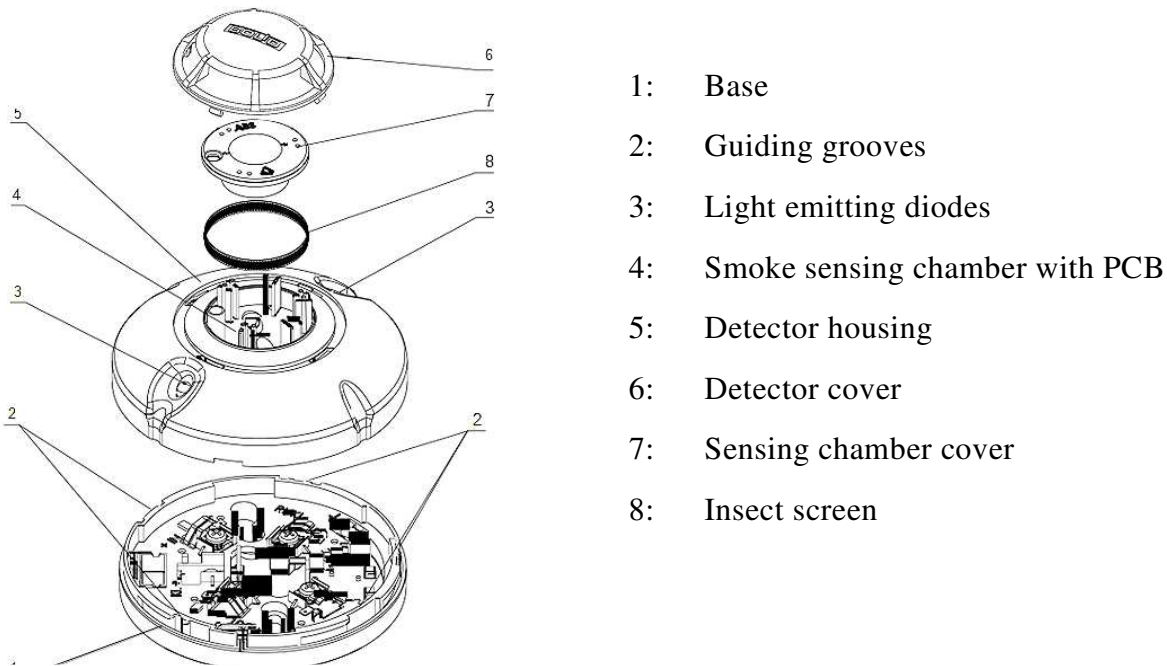

Figure 1
1.4.1 The detector (Figure 1) comprises the mounting base (Position 1) with guiding grooves (Position 2), two light emitting diode indicators (Position 3), printed circuit board and smoke sensing chamber (Position 4), detector housing (Position 5), detector cover (Position 6), sensing chamber cover (Position 7), and insect screen (Position 8).